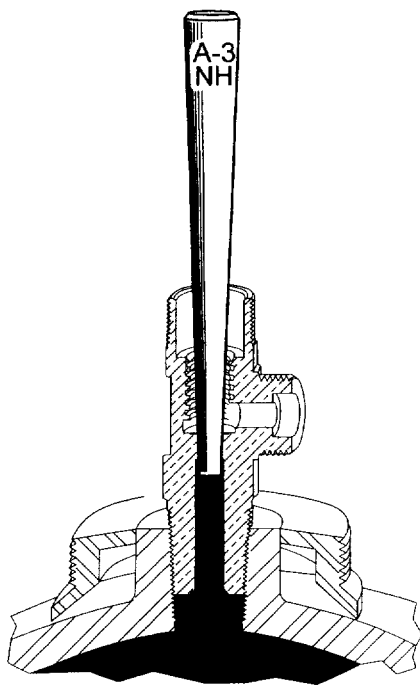

Fig 2.4.1
**ACTION:** Drive small DRIFT PIN A-3NH (Fig 2.4.1) into valve body